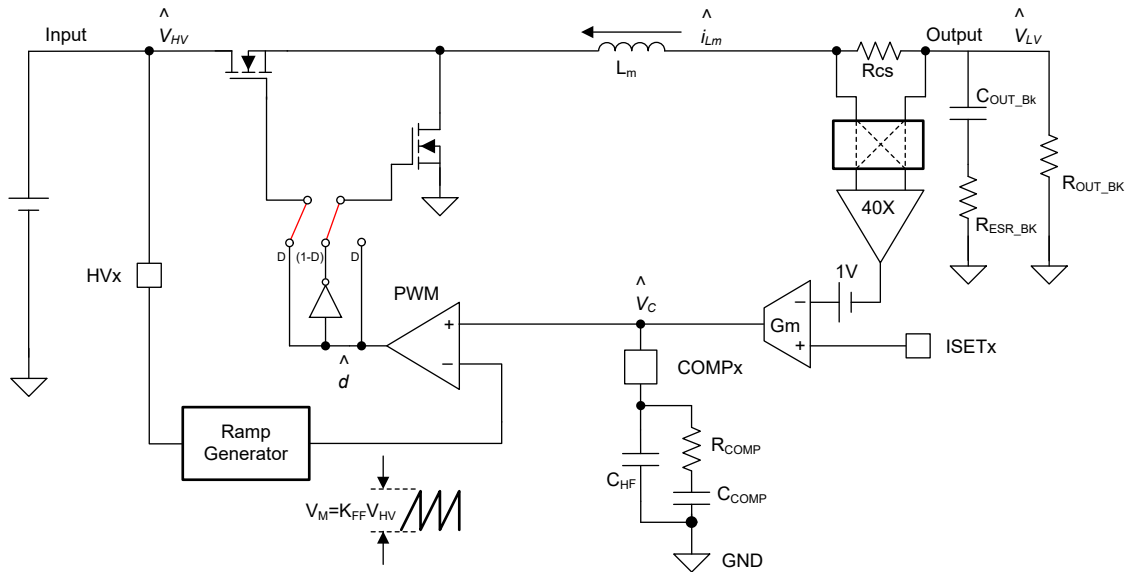

Figure 7-1. Buck Loop Block Diagram
Figure 7-1 shows the current loop block diagram of each phase in buck mode.  $V_{HV}$  is the input while  $V_{LV}$  is the output.
Equation 36 indicates that the power plant is basically a first-order system. A Type-II compensator as shown in Figure 7-1 is adequate to stabilize the loop for both buck and boost mode operations.
- $Z_{COMP}(s)$  is the equivalent impedance of the compensation network seen at the COMP pin (see Figure 7-1)